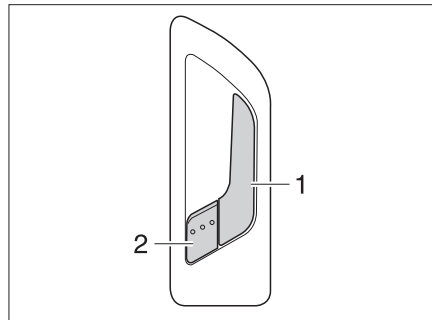

Fig. 43 Door lock of conversion door, inside
- Pull on the handle (Fig. 43,1). The door lock is unlatched. The locking lever (Fig. 43,2) jumps out automatically.
- Press the locking lever (Fig. 43,2).